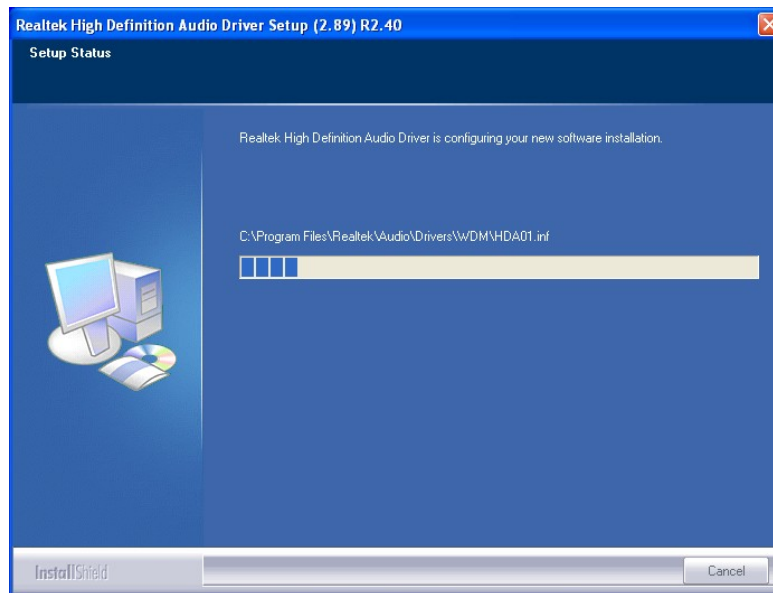

Figure 7-15: Audio Driver Installation
Step 6: The audio driver installation begins. See Figure 7-15.